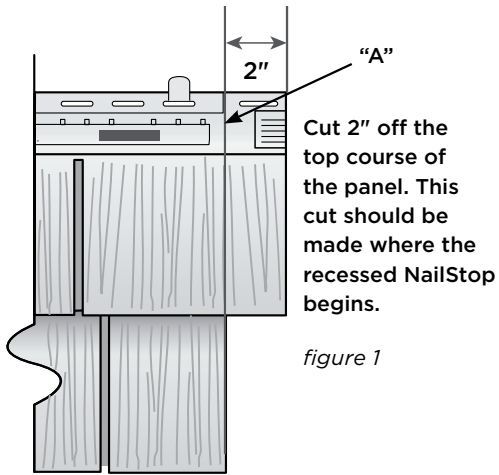

figure 1
The first step in installing soffit is to install the proper receiving channels. You have several options for receiving channels. You can use accessories such as F-Channel or J-Channel, or you can make channels using coil stock. The best approach is to select a method that works most effectively with the construction techniques used to create the eave. Examine figures 1 to 4 and find the one that most closely resembles the construction methods used on your particular project.
Install the receiving channels following the details shown in figures 1 to 4. Nail the channels every 16", positioning the nail in the center of the slot. Do not nail tightly.
1. Cut 2" off the top course of the panel (figure 1).